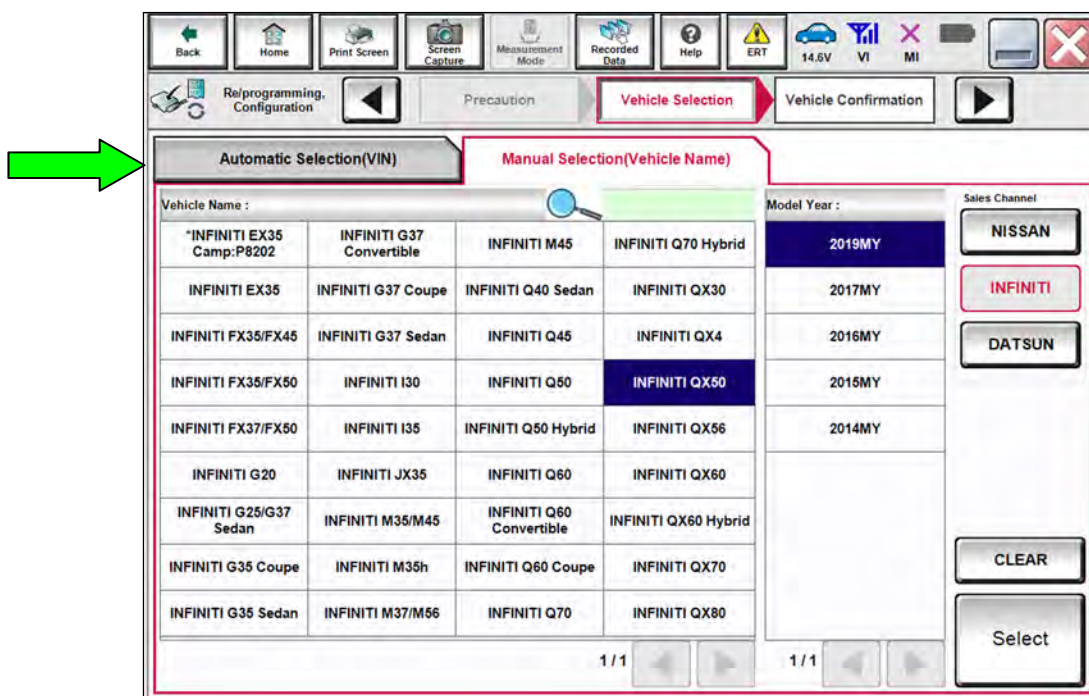

Figure 10
16. If the screen in Figure 10 displays, select **Automatic Selection(VIN)**.
- If the screen in Figure 10 does not display, skip to step 17 on page 8.